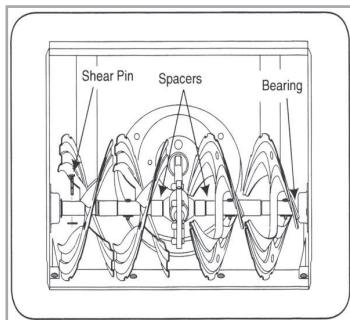

Fig.26
□ The auger are secured to the spiral shaft with two shear pins and cotter pins. If the auger should strike a foreign object or ice jam, the snow thrower is designed so that the pins may shear. See Figure 26.